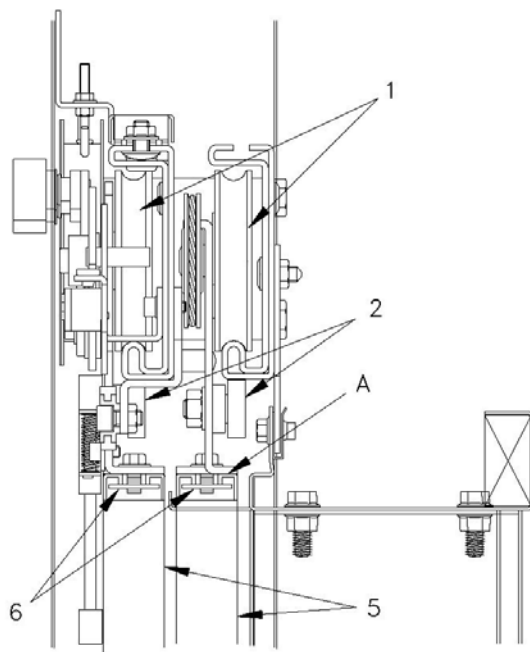

Figure 26 Adjust Landing Doors
1. Verify the door hangers are plumb. Shim as necessary at location 'A' (see Figure 26) between the door hanger and the top of the door. Make sure you bend the shims down to avoid hitting the other door.